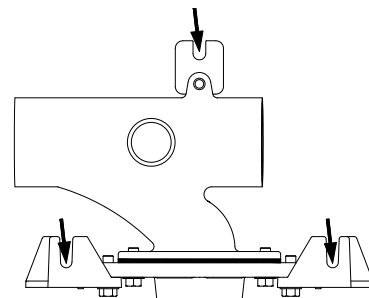

Fig. 7
- Align the carrier with the waste line. Mark locations on the floor for anchoring studs. See Fig. 7